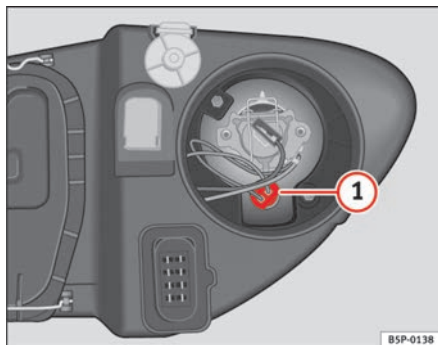

Fig. 184 Side lights
- Extract the lamp holder ⇒ fig. 184 ① outwards.